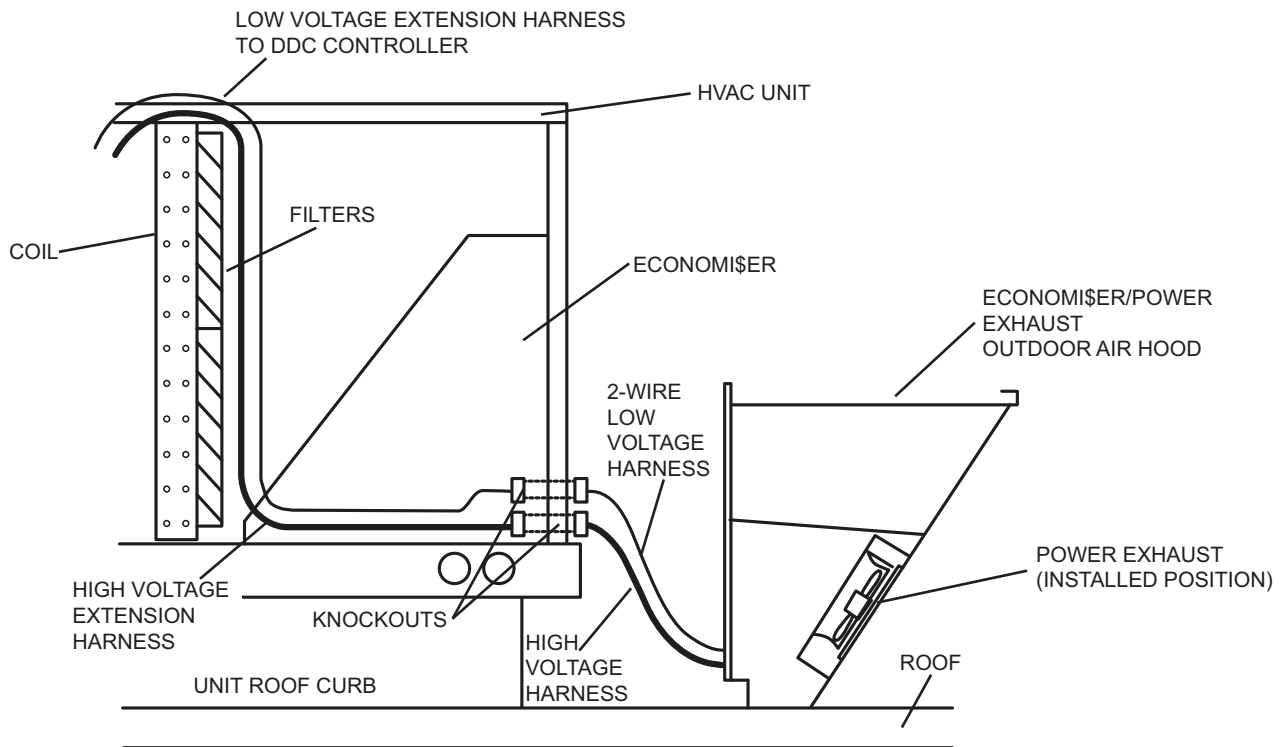

Fig. 9 — Power Exhaust Harness Installation with EconoMiSer2 and DDC (Direct Digital Controls) Controls
3. From the rear of the EconoMiSer2 accessory, connect the low voltage extension harness plug to the two-wire harness from the power exhaust. (See Fig. 9.)
4. Route the other end of the low voltage extension harness to the PremierLink controller. (See Fig. 9.)
7. From the rear of the EconoMiSer2 accessory, connect the long high voltage extension harness plug to the power exhaust harness. (See Fig. 9.)